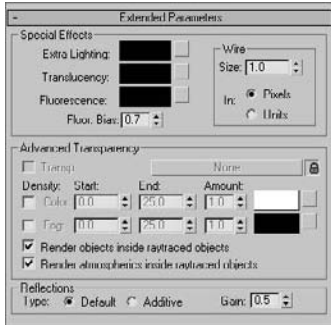

Figure 11.45
7. Go to the Extended Parameters rollout (Figure 11.45). The Reflections section of the parameters is at the bottom. Select Additive and change Gain to 0.7. This gives a bit of reflection brightness for the clear wine glass.